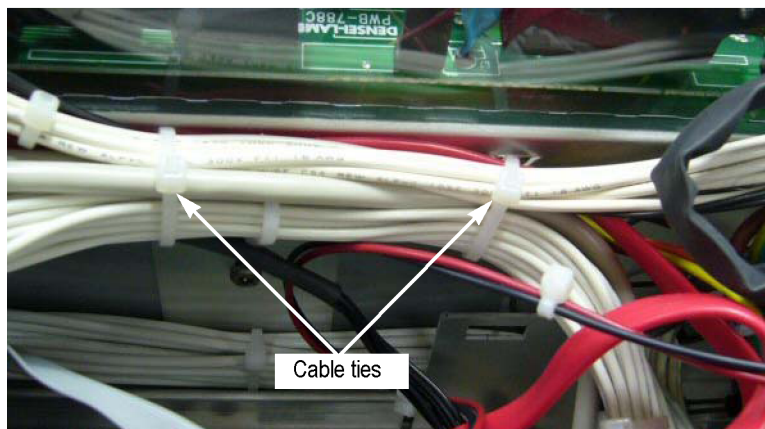

Figure 13: Location of the cable ties
4. Use a wire cutter to remove the two cable ties. (See Figure 13.)